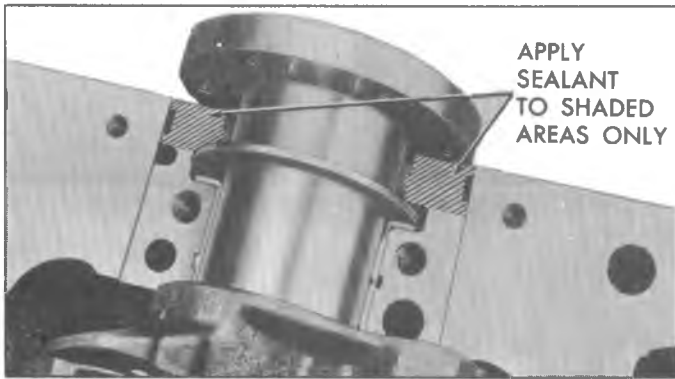

Fig. 8L—Sealing Bearing Cap
12. Install bearing cap to case with sealant applied to the cap-to-case interface being careful to keep sealant off the seal split line (fig. 8L).